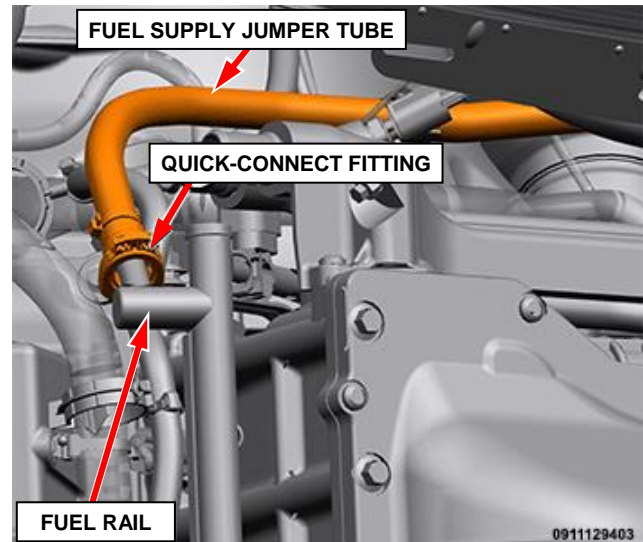

Figure 11 – Fuel Supply Jumper Quick-Connect Fitting Right Side of Engine
14. Place a rag or towel below the fuel supply jumper quick-connect fitting where it connects to the fuel rail located near the cowl on the right side of the engine (Figure 11).
15. Perform the procedure in **Step 13** to release the fuel supply jumper quick-connect fitting from the fuel rail (Figure 11).
21. Connect the fuel supply jumper tube to the fuel rail, then depress the redundant latch to secure the quick-connect fitting to the fuel rail (Figure 11).